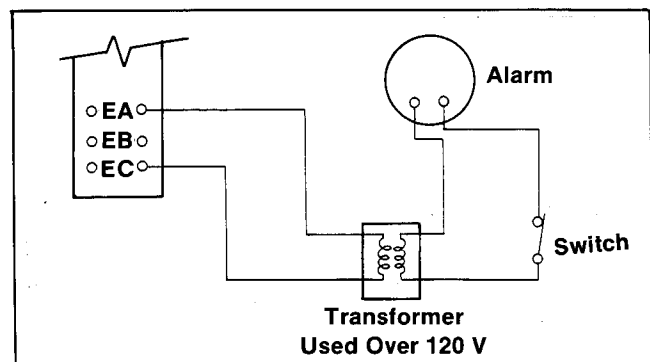

Figure 24. Audible Alarm Connection
- **Acc. 31-A, B Audible Alarm-Silence Switch** alarm sounds when transfer switch is in the emergency position. Switch is used to silence alarm. Alarm is mounted on outside of enclosure, with switch nearby. See Figure 24 for connections.